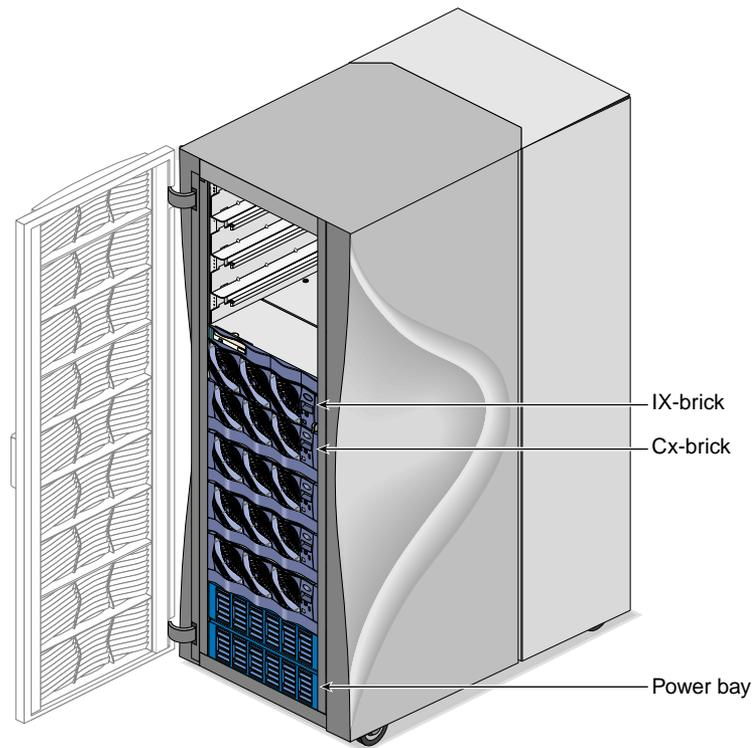

Figure 2-4 Standard System Components
The SGI Origin 3900 server features the following standard components (see Figure 2-4):
- L2 controller - This rack-level controller manages the bricks within a rack (not shown in Figure 2-4). For more information about the L2 controller, see Chapter 8, “System Control”.
- Power components - The power components of the Origin 3900 server consist of power distribution units (PDUs) and power bays. The PDUs filter input power, protect against over-current conditions, and remove power from the racks (not shown in Figure 2-4). The power bay inputs AC voltage and outputs 48 VDC and 12 VDC standby voltage to the bricks within a rack. For more information about these power components, see Chapter 9, “Power Components”.
The 39U rack, as shown in Figure 2-4, has front and rear doors that have keylocks to prevent unauthorized access to the system. The rack also has cable entry/exit areas at the bottom of the rack and cable management hardware in the rear of the rack.